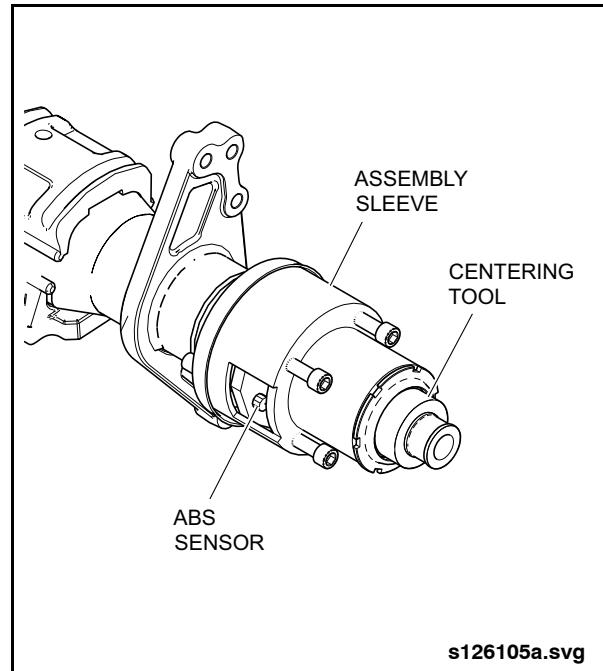

Fig. 2-148: Assembling Centering Device
1. Assemble the centering device tool using Items 3, 4, 5, 6 & 7 from special tools list. See "Fig. 2-148: Assembling Centering Device" on page 127.